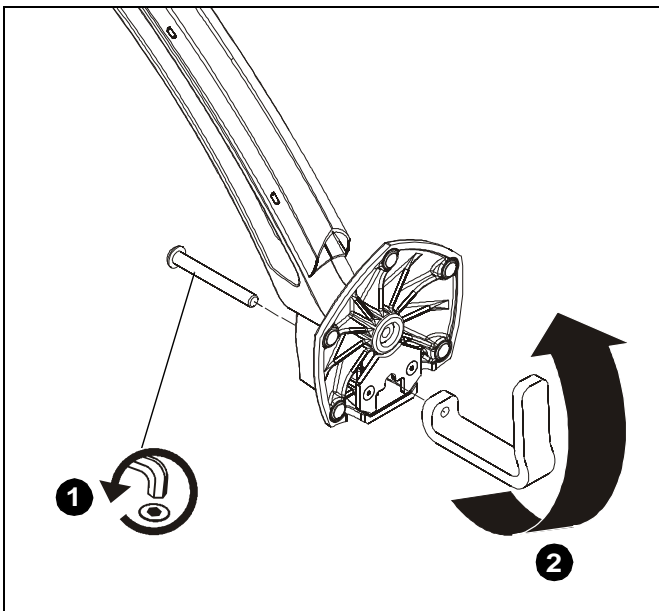

Figure 1
1. Remove desk clamp from mount by loosening button head cap screw until clamp is completely disengaged from the bolt. (See Figure 1)
2. Maneuver clamp so that it is totally removed from desk mount. (See Figure 1)